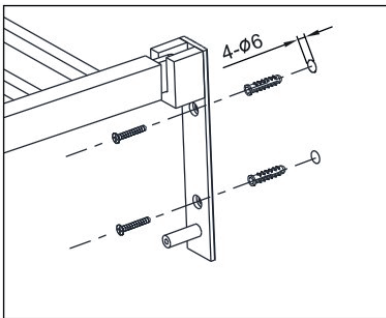
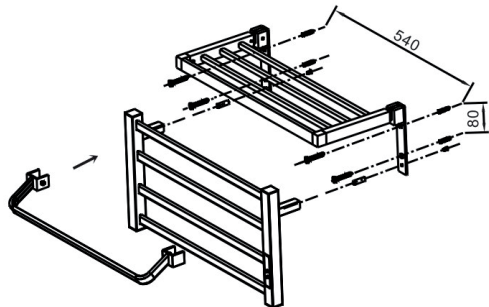

Figure 4
Figure 5
1. Drill the holes ( $\varnothing 6\text{mm}$ ) in the wall according to Figure 4 and Figure 5.